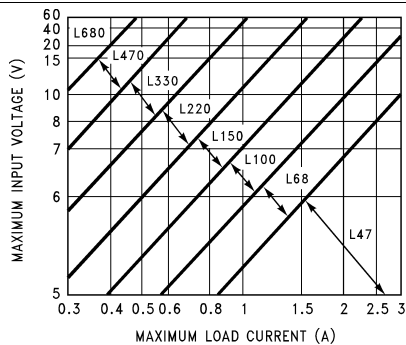
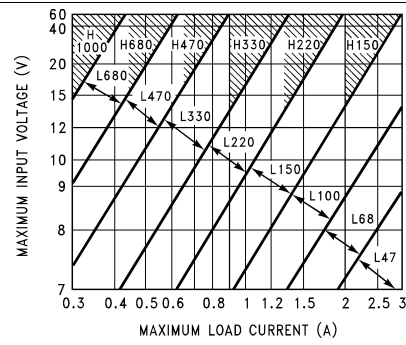
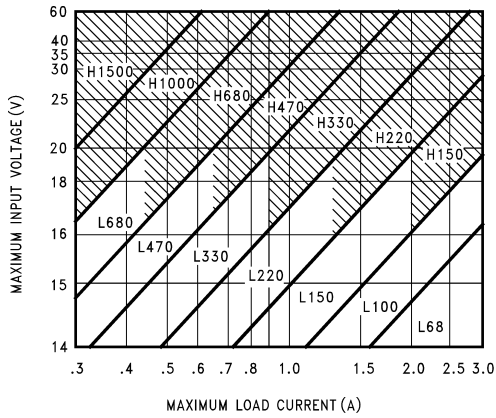
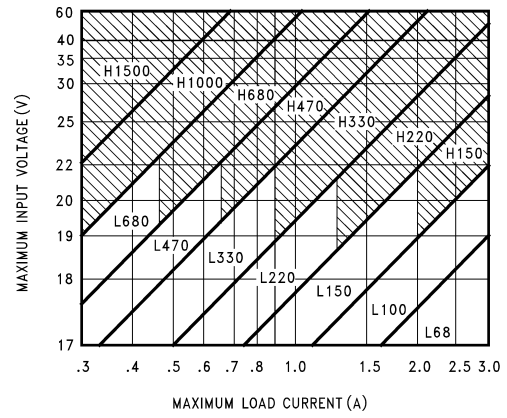

Figure 27. LM2576(HV)-3.3
Figure 28. LM2576(HV)-5.0
Figure 29. LM2576(HV)-12
Figure 30. LM2576(HV)-15
The inductor value selection guides in Figure 27 through Figure 31 are designed for buck regulator designs of the continuous inductor current type. When using inductor values shown in the inductor selection guide, the peak-to-peak inductor ripple current is approximately 20% to 30% of the maximum DC current. With relatively heavy load currents, the circuit operates in the continuous mode (inductor current always flowing), but under light load conditions, the circuit is forced to the discontinuous mode (inductor current falls to zero for a period of time). This discontinuous mode of operation is perfectly acceptable. For light loads (less than approximately 300 mA), it can be desirable to operate the regulator in the discontinuous mode, primarily because of the lower inductor values required for the discontinuous mode.
1. Select the correct Inductor value selection guide from Figure 27, Figure 28, Figure 29, or Figure 30. (Output
voltages of 3.3 V, 5 V, 12 V, or 15 V, respectively). For other output voltages, see the design procedure for the adjustable version. Use the selection guide shown in Figure 28.
- Identify the inductor value from the inductor code, and select an appropriate inductor from the table shown in Figure 27. Part numbers are listed for three inductor manufacturers. The inductor chosen must be rated for operation at the LM2576 switching frequency (52 kHz) and for a current rating of $1.15 \times I_{LOAD}$. For additional inductor information, see the Inductor Selection section. Inductor value required is 100 μ H from the table in Figure 27. Choose AIE 415-0930, Pulse Engineering PE92108, or Renco RL2444.